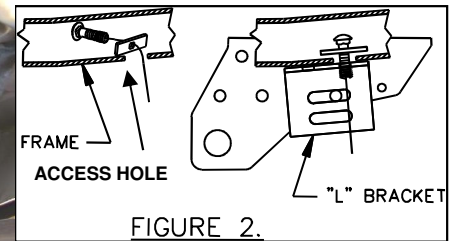

FIGURE 2.
7. Use pull wire to install 7/16" carriage bolt with 1/4" bolt plate in access hole in bottom of frame. Then pull carriage bolt back through the access hole which will be used to install the "L" bracket. (See Figure 2.)